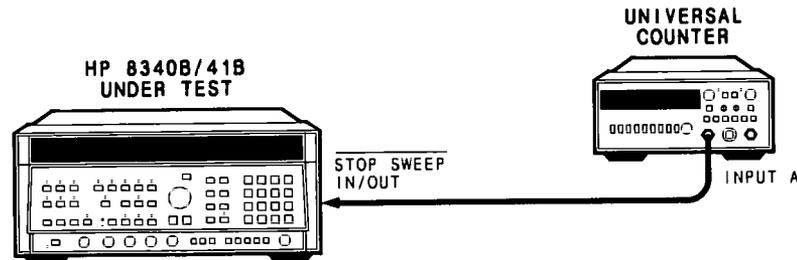

Figure 4-3. Sweep Time Accuracy Test Setup
1. Connect equipment as shown in Figure 4-3. Switch the HP 8340B/41B POWER to ON. Allow the equipment to warm up for one hour.